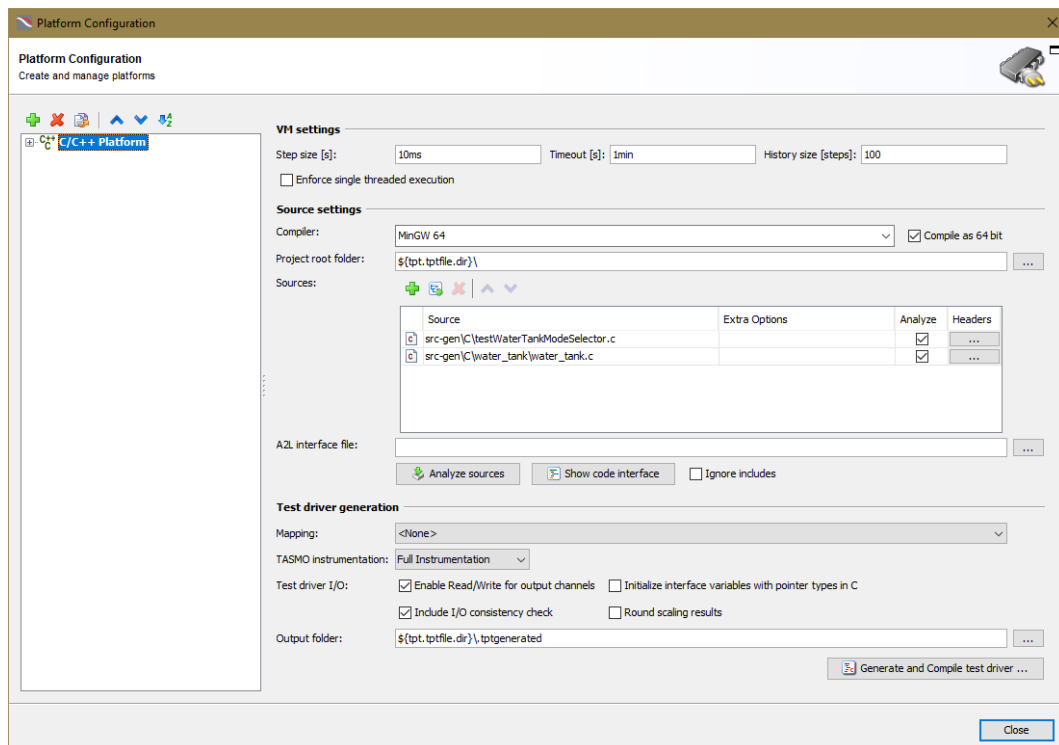

Figure 94. "Platform Configuration" window with configured platform
1. In the "Platform Configuration" window (Figure 94), click on the **Analyze sources** button.